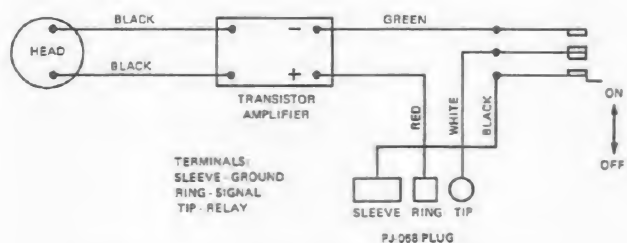
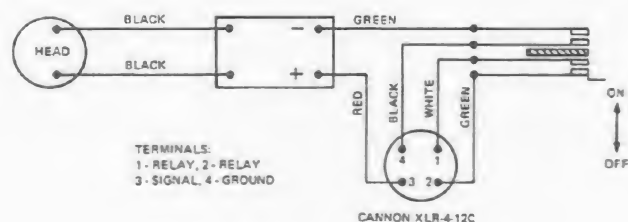

Figure 1 - Wiring Diagram (3 wire connection)
Figure 2 - Wiring Diagram (4 wire connection)
8. Test Procedure (See Figure 1 or Figure 2)